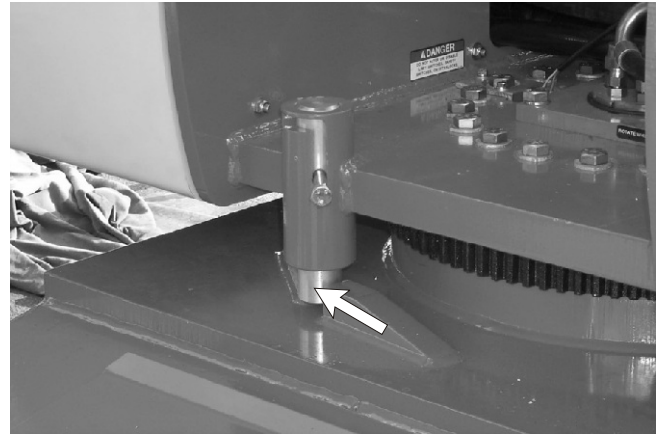

Figure 9.3—Slew Lock Pin Set
10. Engage the slew lock (see Figure 9.3)
2. Inspect the lifting lugs (refer to Figure 9.3) to make sure they are free of cracks, rust, and are in good condition. There are two lugs on the rear of the chassis and two on the front. Have any damage repaired by a qualified service technician before attempting to hoist the machine.
11. Engage the slew lock pin (refer to Figure 9.3)